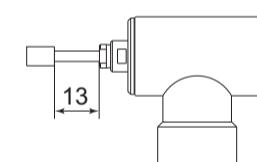

Fig. 11
- ① The proper surface speed for general grindstones is 10-30m/s.
- ② Do not exceed 13mm of overhang for mounted grindstones as shown in Fig. 11. If the overhang must exceed 13mm, reduce the motor speed in accordance with table 2.
- ③ Dress the grindstone prior to use.
- ④ Do not use tools with bent or broken shanks, cracks or excessive run-out.
- ⑤ For grinding, the maximum depth of cut should not exceed 0.01mm radially or axially. Reciprocate the tool several times after each pass to eliminate tool pressure.
- ⑥ Always operate tools within the allowable recommended speed of the tools. Use of a tool outside of the allowable speed of the tools could cause damage to the spindle and injury to the operator.
- ⑦ Keep the tool shank and collet chuck clean. If contaminants are left in the collet chuck or chuck nut, excessive run-out will cause damage to the tool and or spindle.
- ⑧ Do not strike or disassemble the spindle.
- ⑨ Please set the tools to minimize the overhang amount. 13mm is the maximum amount of overhang to maintain high accuracy and safety.